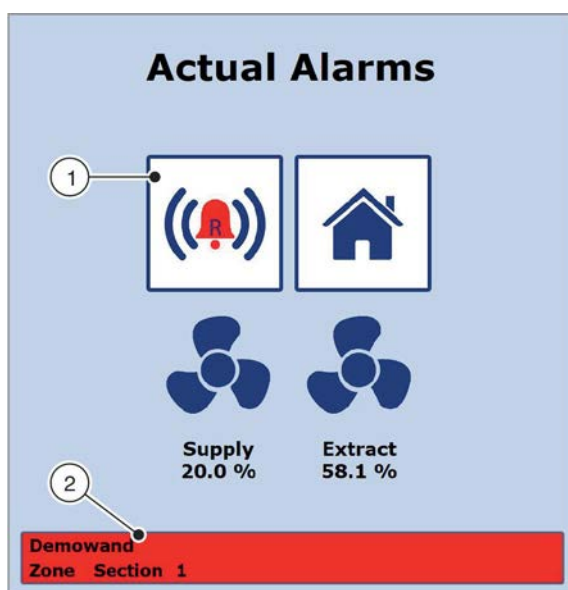

Fig. 125: Current alarms on the webserver
Alarms are shown on the Start screen of the webserver (Fig. 125 /1+2). There are two types of alarms: A and B.
System errors cause an A alarm, which is then displayed with a red bell symbol (Fig. 125 /1). The zone master is automatically switched off as a consequence.
Warnings cause a B alarm, which is then displayed with a yellow bell symbol. Warnings impair the function of X-AIRCONTROL, but the system will continue to run. The zone master which has caused the error is displayed in the red field (Fig. 125 /2).
1. ▶ Go to the 'Start' screen of the webserver and click on the bell symbol (Fig. 125 /1).
- ⇨ The 'Actual Alarms' screen (Fig. 125) displays.
2. ▶ Click on the red field (Fig. 125 /2).
- ▶ If you have corrected all errors, click on the button in Fig. 125 /1.